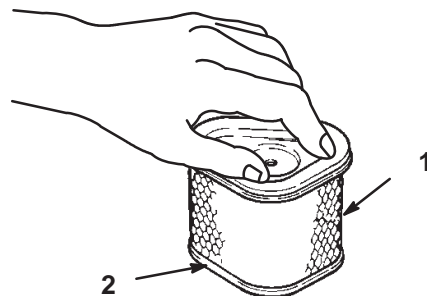

Figure 32
- Lightly tap the element on a flat surface to remove dust and dirt (Fig. 32).